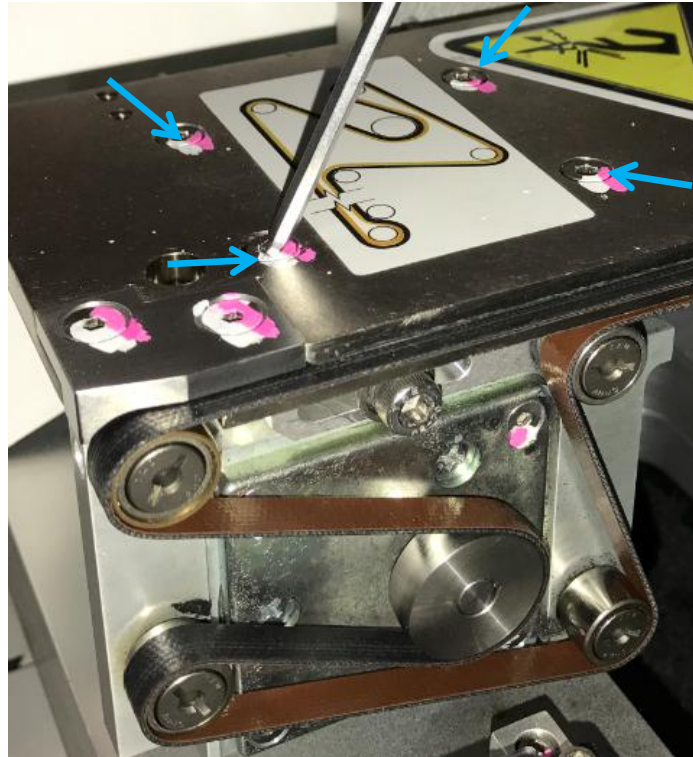

Figure 15 Adj Rail Mount Pulley Assembly
- a) Loosen 4 x Screws at Mount Pulley assembly as below Figure 15